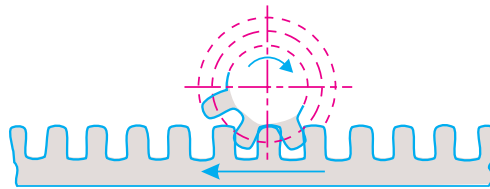

Fig. 34.5. Rack and pinion.
3. **Rack and pinion.** Sometimes, the gear of a shaft meshes externally and internally with the gears in a straight line\* as shown in Fig. 34.5.
Such a type of gear is called *rack and pinion*. The straight line gear is called rack and the circular wheel is called pinion. A little consideration will show that with the help of a rack and pinion gear, we can convert linear motion into a rotary motion and *vice versa* as shown in Fig. 34.5.